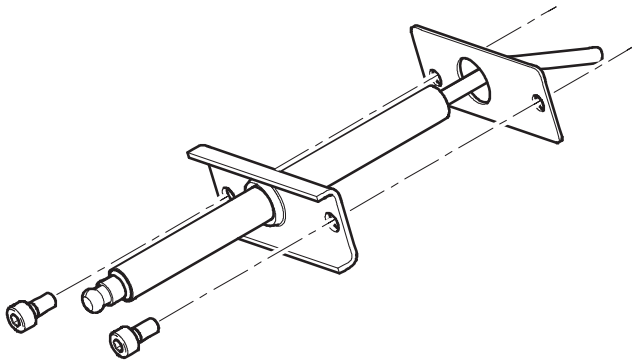

Figure 30: Ionization Electrode (Flame Rod)
- Install igniter as shown in Figure 30.